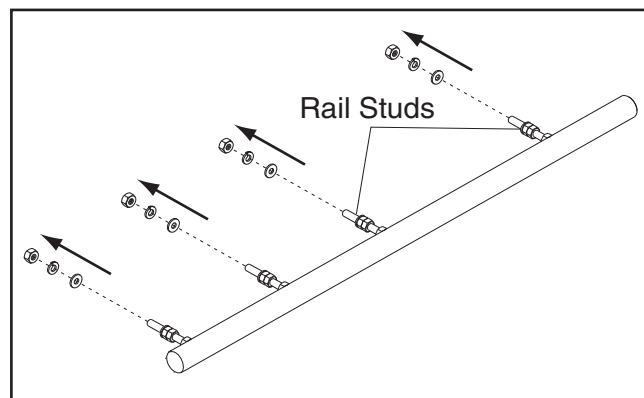

Figure 32. Removing rip fence rail hardware to prepare for installation.
18. The rip fence rail is pre-assembled with four rail studs and accompanying hardware. Remove (1) hex nut, (1) flat washer, and (1) lock washer from end of each stud, as shown in **Figure 32**.